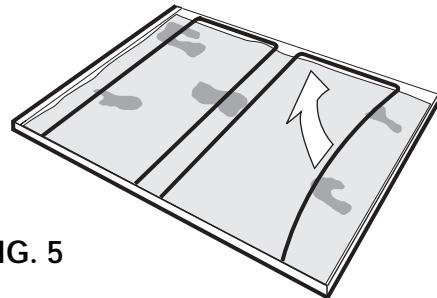

FIG. 5
4. For hood version with grille: Remove the device securing the grease filter (Fig. 5).